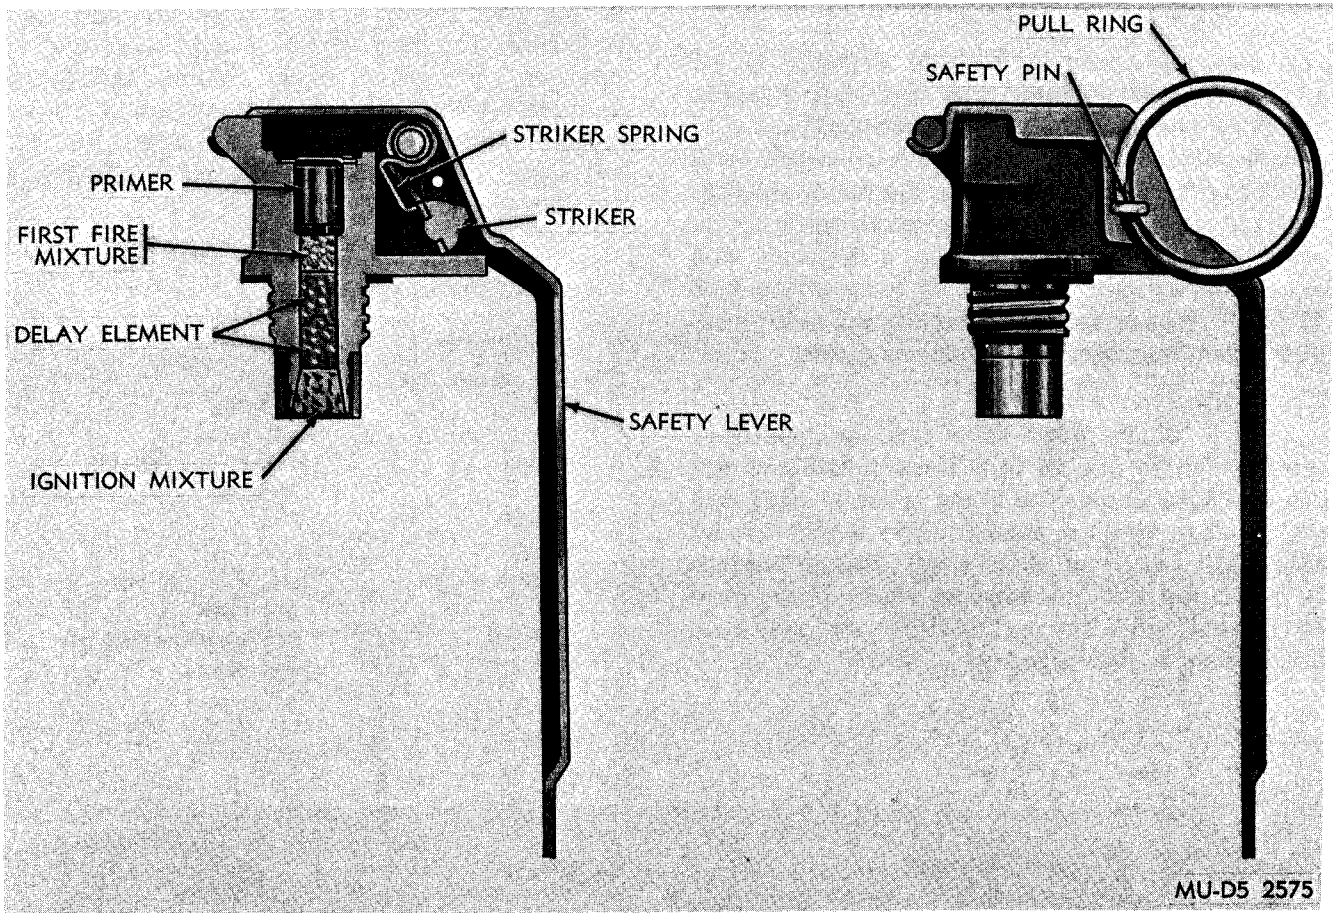

Figure 2-16. Hand grenade fuze M201A1.
(2) *Fuze, hand grenade: M201A1.* Fuze M-201A1 (fig. 2-16) is a pyrotechnic delay-igniting fuze. The body contains a primer, first-fire mixture, pyrotechnic delay column and igniter mixture. Assembled to the body are a striker, striker spring, safety lever and safety pin with pull ring. The split end of the safety pin has an angular spread.
(2) *Fuze, hand grenade: M201A1.* Fuze M-201A1 (fig. 2-16) is a pyrotechnic delay-igniting fuze. The body contains a primer, first-fire mixture, pyrotechnic delay column and ignition mixture. Assembled to the body are a striker, striker spring, safety lever and safety pin with pull ring. The split end of the safety pin has an angular spread.
(2) *Fuze, hand grenade: M201A1.* Fuze M-201A1 (fig. 2-16) is a pyrotechnic delay-igniting fuze. The body contains a primer, first-fire mixture, pyrotechnic delay column, and ignition mixture. Assembled to the body are a striker, striker spring, safety lever and safety pin with pull ring. The split end of the safety pin has an angular spread.